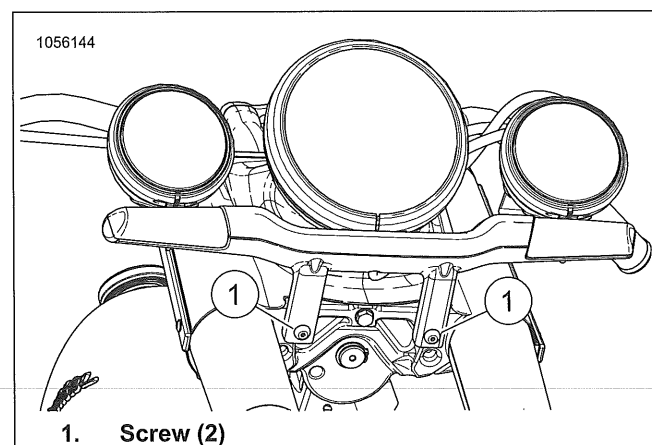

Figure 7-60. Lightbar Assembly
2. See Figure 7-60. Remove screws (1).
2. See Figure 7-60. Install screws (1). Tighten.